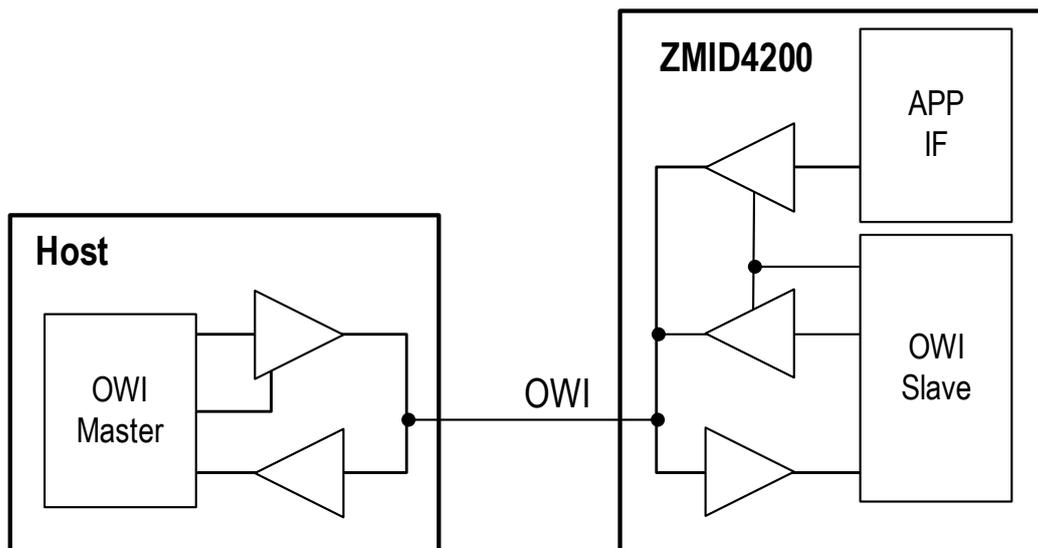

Figure 1. OWI Overview
- Figure 1. OWI Overview2
Figure 1 shows the system connection with the OWI. The host system, e.g. a laboratory computer, contains an OWI master, and the ZMID4200 has an OWI slave. Both are connected by bidirectional bus drivers to the common OWI wire. On the ZMID4200 side, the OWI input is a CMOS Schmitt trigger and the output is a CMOS buffer.